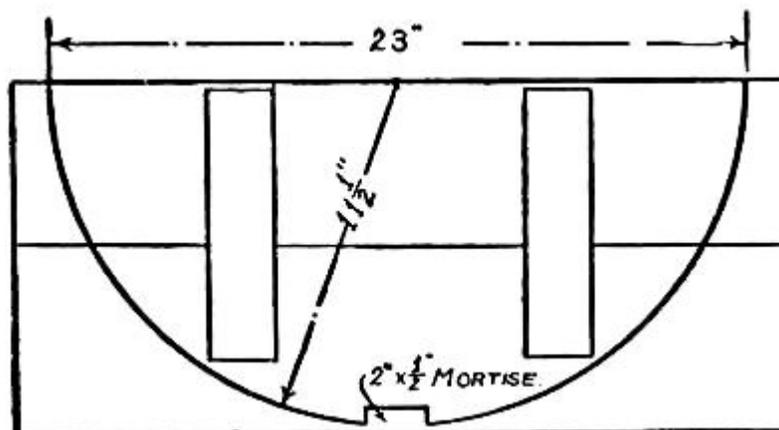

FIG. 204.—The Mould.
**A Mould** similar to Fig. 204. Fasten together two boards about two feet long with battens, as shown in the drawing, and with a piece of cord to which a pencil has been attached describe a semicircle upon it, using a radius of eleven and one-half inches. Saw out the mould carefully, and in the centre of the bottom cut a mortise two inches by one-half for the keelson to fit in.